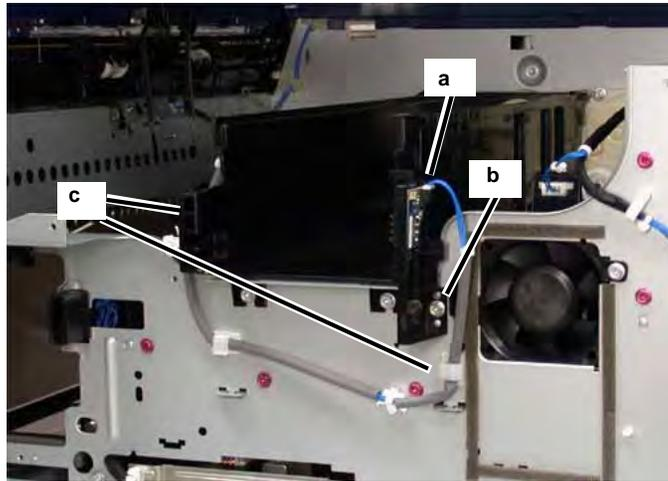

Figure 6 Wires & PJ
7. Remove the Toner Cartridge Connector (Figure 6).
- a. Disconnect the PJ (1).